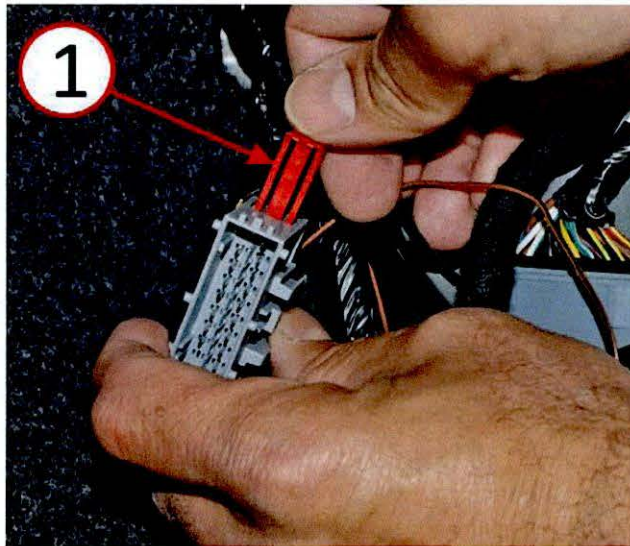

**Fig. 23 Right Heated Mirror Wire Terminal**
27. Insert the terminal of the longer F1814 BR-BK heated mirror wire into the body side electrical connector C154 cavity 14. Push in until the terminal clicks into the connector. Gently pull back on the terminal to ensure it is securely locked in the connector (Fig. 23).